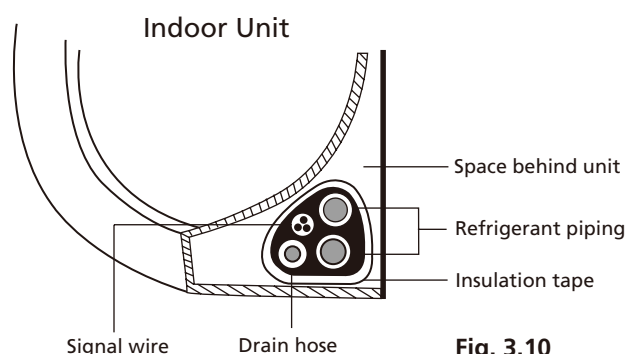

Fig. 3.10
1. Bundle the drain hose, refrigerant pipes, and signal cable according to **Fig. 3.10**.
3. Using insulation tape, wrap the signal wire, refrigerant pipes, and drain hose tightly together. Double-check that all items are bundled in accordance with **Fig. 3.10**.